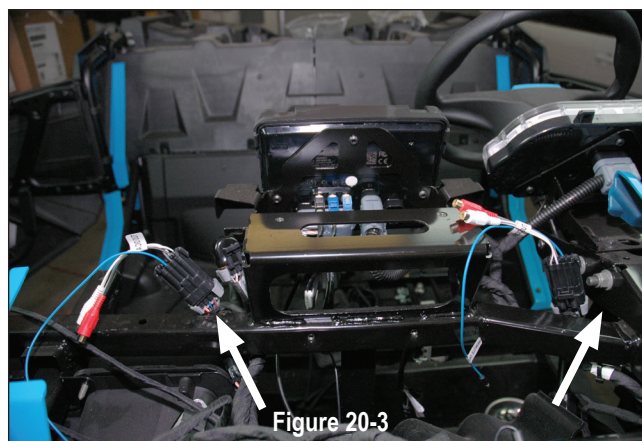

Figure 20-3
Connect the Ride Command adapters to AMP1 and AMP3 plugs as shown in figure 20-3. Both adapters are identical, so it's only important you note which are plugged into AMP1 and AMP3 audio outputs.
- If you have NO Dynamix ECU or OEM installed amplifier, use the (2) T40 screws provided in the MB Quart RZR Stage 3 kit as shown in Figure 20-2. In the next step these screws will attach the dual amplifier plate in the two identified holes as shown in Figure 20-3.